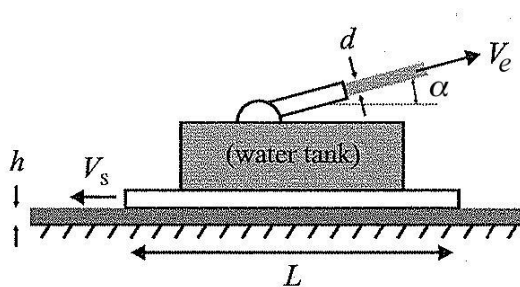

Figure P3.56
3.56 A square sled, where each side is of length L , rides on thin layer of oil of thickness h and viscosity μ , as shown in Figure P3.56. The sled carries a tank of water of density ρ , as well as a circular water jet of diameter d , inclined at an angle α to the horizontal. If the